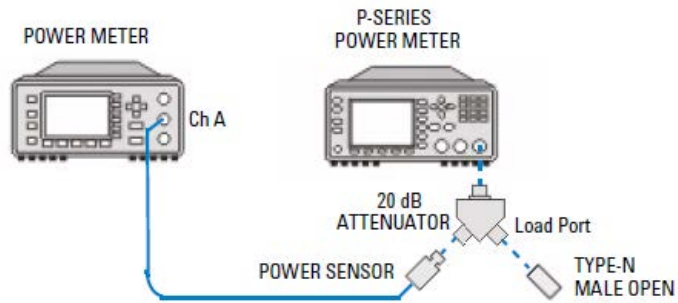

Figure 3-4 Output SWR test setup - Open connection diagram
- 10 Connect the Measurement System to the Power Reference connector on the N432A (referred to as the DUT). Refer to Figure 3-4.